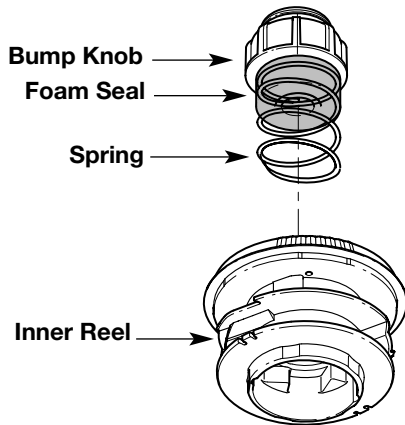

Fig. 14
1. Turn the bump knob counterclockwise and remove the bump knob, spring, and foam seal (Fig. 14).
2. Pull out the bump knob, spring, and foam seal (Fig. 14).
3. Pull the inner reel with existing line from the outer spool (Fig. 14).
7. Place the bump knob, spring, and foam seal into the inner reel (Fig. 14).